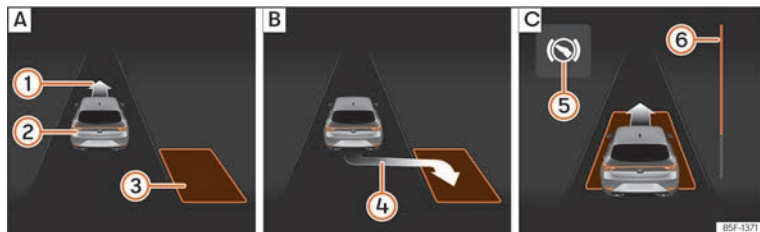
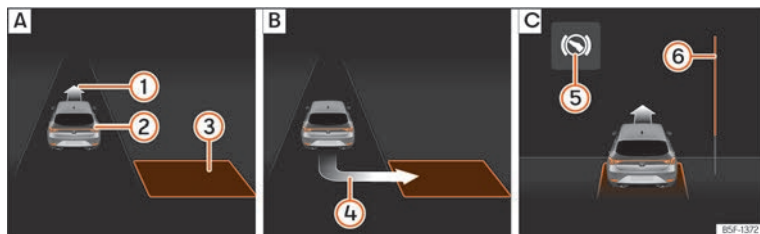

Fig. 199 On the instrument panel display: parallel parking. **[A]** Finding a parking space. **[B]** Parking position. **[C]** Manoeuvring.
Fig. 200 On the instrument panel display: angle parking. **[A]** Finding a parking space. **[B]** Parking position. **[C]** Manoeuvring.
- Look at the display on the instrument panel to see if the space has been detected as “appropriate” and if the correct position for parking has been reached » **Fig. 199 [B]** or » **Fig. 200 [B]**. The space is considered
• Reverse until the continuous ParkPilot signal sounds; **OR:** reverse until the indication to move forward appears on the instrument panel display »» Fig. 199 [C] or »» Fig. 200 [C]; **OR:** reverse until the **Park Assist finished** message appears on the instrument panel display. The progress bar ⑥ indicates the distance to cover »» page 288.
• Press the brake pedal until the parking assist system completes the steering wheel turns; **OR:** until the symbol ⑤ goes out on the instrument panel screen.
• Move forward until the continuous ParkPilot signal sounds; **OR:** move forward until the reverse indication appears on the instrument panel display. The Park Assist system steers the vehicle forward and back until it centres it in the space »» Fig. 199 [C] or »» Fig. 200 [C].
»» Fig. 199 ⑥ and »» Fig. 200 ⑥ on the screen of the instrument panel displays the relative distance to be covered. The greater the distance, the fuller the progress bar. When driving forward, the content of the progress bar decreases upwards, and when reversing, it decreases downwards.